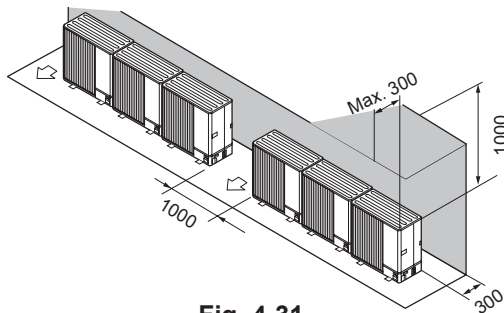

Fig. 4-31
- ② Obstacles at rear and above only (Fig. 4-31)